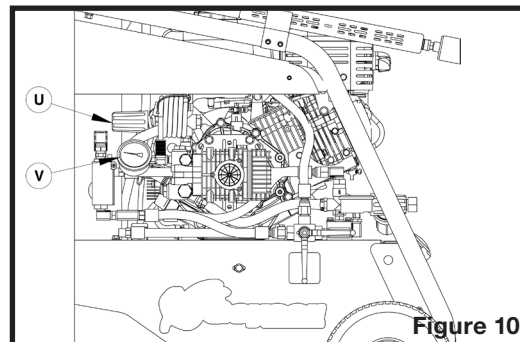

Figure 10
9. Pressure can be adjusted by means of the high pressure regulator (U on figure 10) up to 3500 psi. Pressure is read on the pressure gauge (V on figure 10).